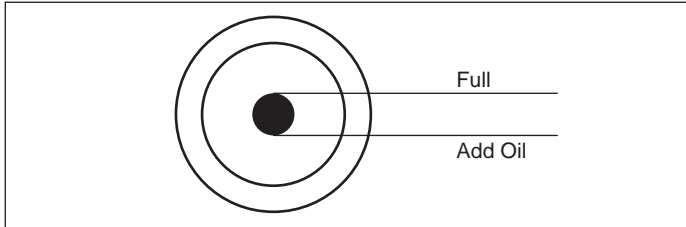

Figure 4
2. Remove pump fill plug and fill pump with 14.1 oz. of oil. Use full synthetic motor oil like Mobil 1® 10W-30. Do not use regular automotive oil such as 10W-30. Additives in regular oil can cause valve deposits and reduce pump life. For pumps with an oil sight glass, oil level can be monitored and maintained as shown in Figure 4.